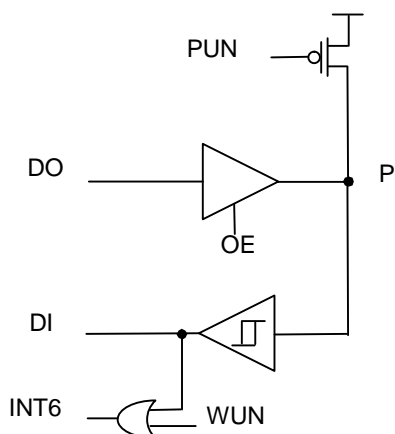

Figure11.1 Ports I/O block diagram
A9108 has 24 Digital I/O Pins. There are separated to 3 Ports and each of the Port pin can be defined as general-purpose I/O (GPIO) or peripheral I/O signals connected to the timers, UART, I2C and SPI functions. Thus, each pin can also be used to wake A9108 up from sleep mode. User can select each pin function by setting register. Each port has itself port register like P0 (0x80), P1 (0x90) and P3 (0xB0) that are both byte addressable and bit addressable. When reading, the logic levels of the Port's input pins are returned. Each port has three registers to setting Pull-up (PU), Output-enable (OE) and Wake-up enable (WUE). As shown the bellow block diagram, Fig. 11.1. Unused I/O pins should have a defined level and not be left floating. One way to do this is to leave the pin unconnected and configure the pin as a general-purpose I/O input with pull-up resistor.